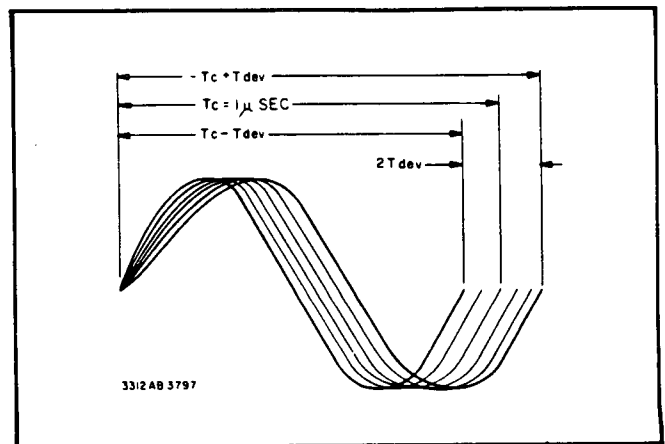

Figure 5-10. Frequency Deviation Test.
d. Press the FM~ pushbutton. The presentation on the oscilloscope should be like the one shown in Figure 5-10. Measure the + and - deviation as shown.  $2T_{dev}$  should be at least .1  $\mu$ sec (.5 cm).